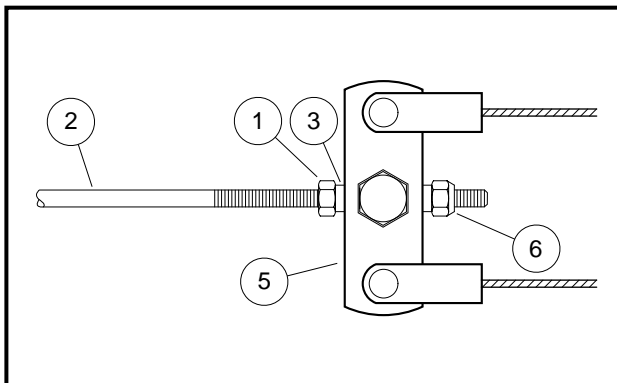

Figure 6-28 Adjust Front Equalizer
- 2.1. Tighten the nylon locknut (6) on the front equalizer rod (2) to 35 in-lb (4 N·m) (**Figure 6-28, Page 6-17**).
- 2.4. Hold the locknut (6) on the front equalizer rod (2) in place with a wrench and tighten the jam nut (1) to 13 ft-lb (17.6 N·m) (**Figure 6-28, Page 6-17**).